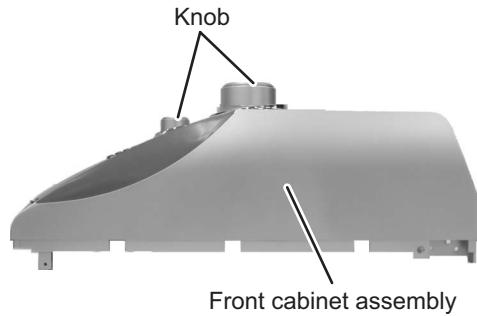

Fig.17
- (3) Remove the knobs from the front side simultaneously. (See Fig.17)
- (4) Take out the front key board while lifting it from the front cabinet assembly little by little.